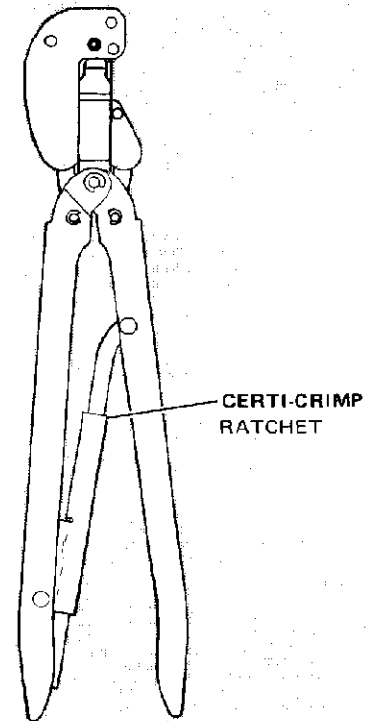

Figure 1
- Open crimping dies by closing handles until CERTI-CRIMP* ratchet releases. See Figure 1. Note that once ratchet is engaged, handles cannot be opened until they are fully closed.